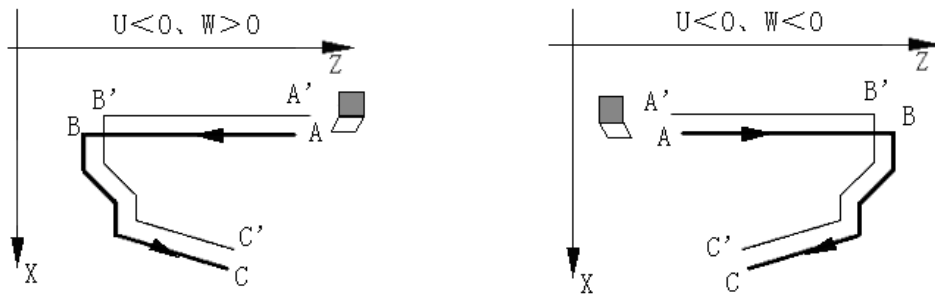

Fig. 4-41
- 3) Coordinate offset direction in reserving roughing allowance: U,W in command ① expresses the coordinate offset and cut-in direction in finishing; there are four kinds of combination according to the signs of U, W, as Fig. 4-41: B→C is finishing path, B'→C' is roughing contour, A is the start-up point.